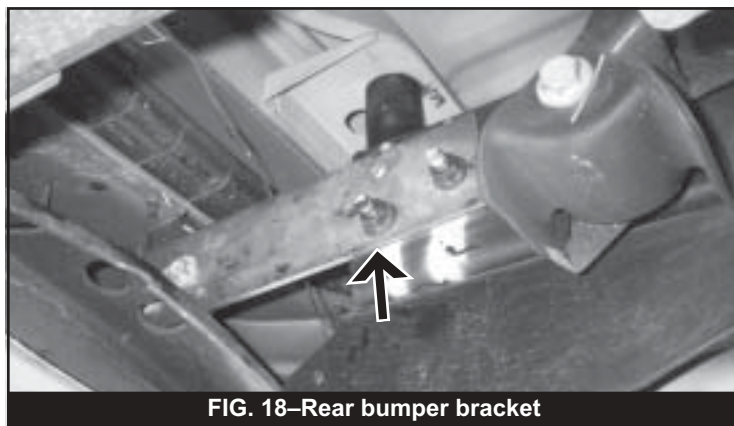

FIG. 18—Rear bumper bracket
97. Mount the bumper to the vehicle using four 7/16" x 1-1/2" bolts, eight 7/16" USS washers, and nuts (Fig. 18). Do not tighten.